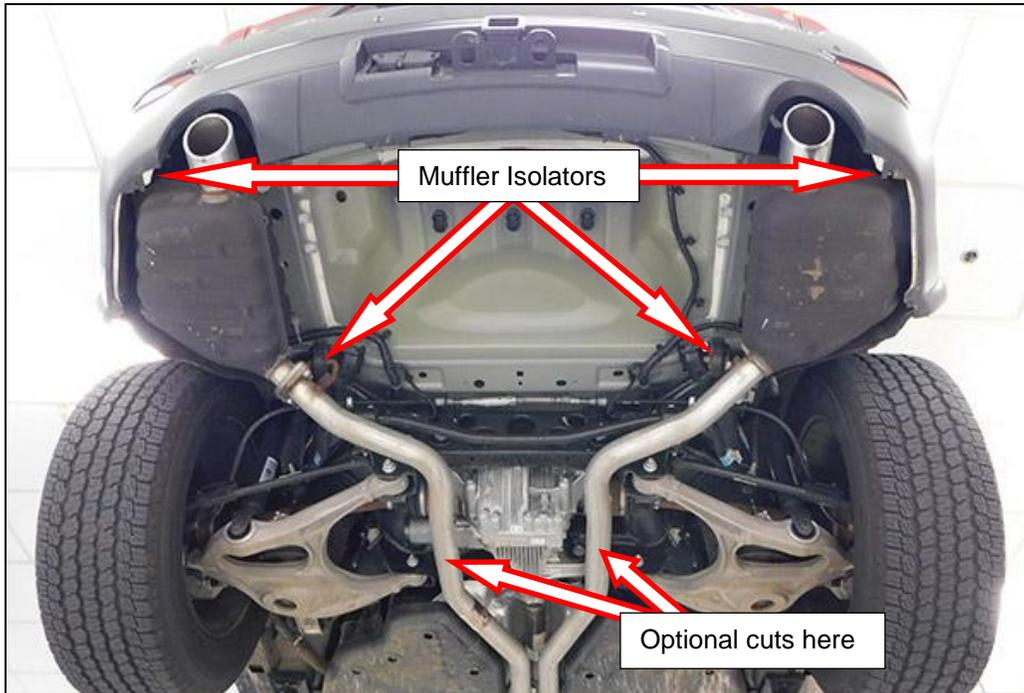

Figure 1
4. Spray the O.E muffler hanger isolators with WD-40®. Remove the rubber isolators from the muffler assemblies. Use a pry bar to help push the isolator off the hanger rod (**Figure 1**).
NOTE: Cutting the factory exhaust at the location shown in **Figure 1** will simplify the removal process, but is not necessary.